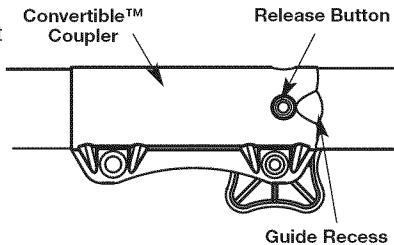
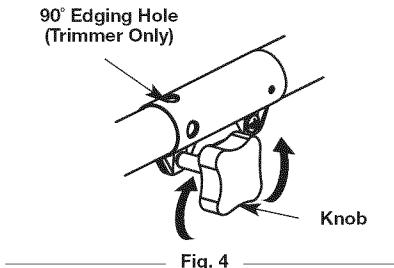

Fig. 2
Fig. 4
WARNING: Before operating this unit, be sure that the release button is fully snapped into the primary hole (Fig. 2), and that the knob (Fig. 4) is securely tightened.
NOTE: Aligning the release button with the guide recess will help installation (Fig. 2).
- Turn the knob clockwise to tighten (Fig. 4).
NOTE: When using the line trimmer or other attachment to edge, lock the attachment release button into the 90° hole (Fig. 4).
- Turn the knob counter-clockwise to loosen (Fig. 4).
- Press and hold the release button (Fig. 2).